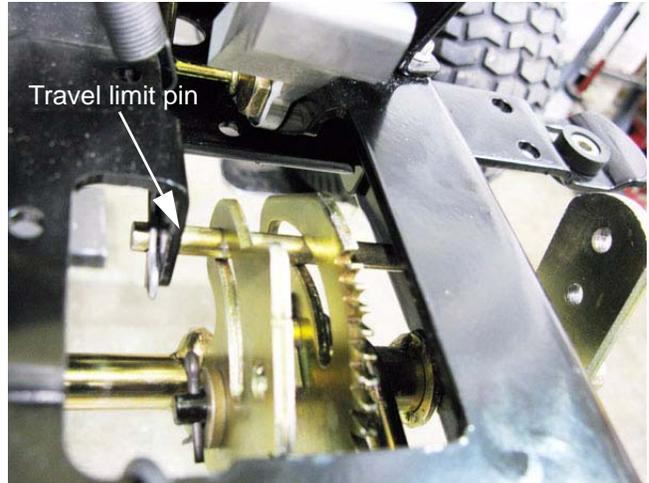

Figure 6.5
5. Check the drive control linkage. See Figure 6.5.